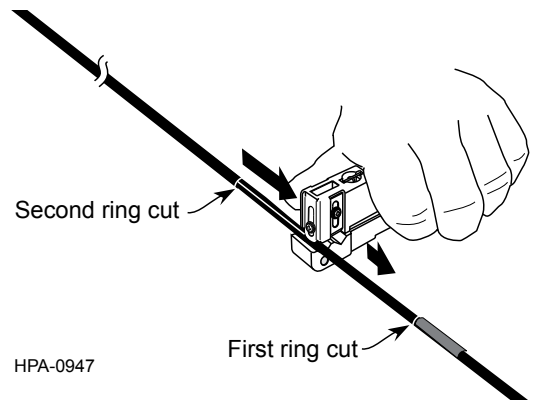

Figure 15
Step 4: Use the end of the Ideal® tool with a rounded blade installed and make a longitudinal cut between the first and second ring cuts made in Step 3 (Figure 15).